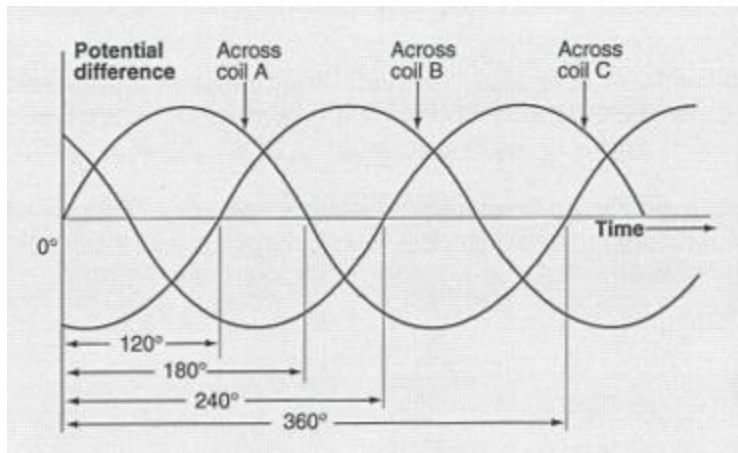

Figure 7.2: Potential Differences Across Coils
- 7-5 The sine curves representing the potential difference across each of the coils are shown in Figure 7.2 on the following page. If you examine these sine curves closely, you can see that the sum of all three values is always zero. For example, when one potential difference is zero, the other two are exactly opposite to each other in value. One is positive, and the other is negative.